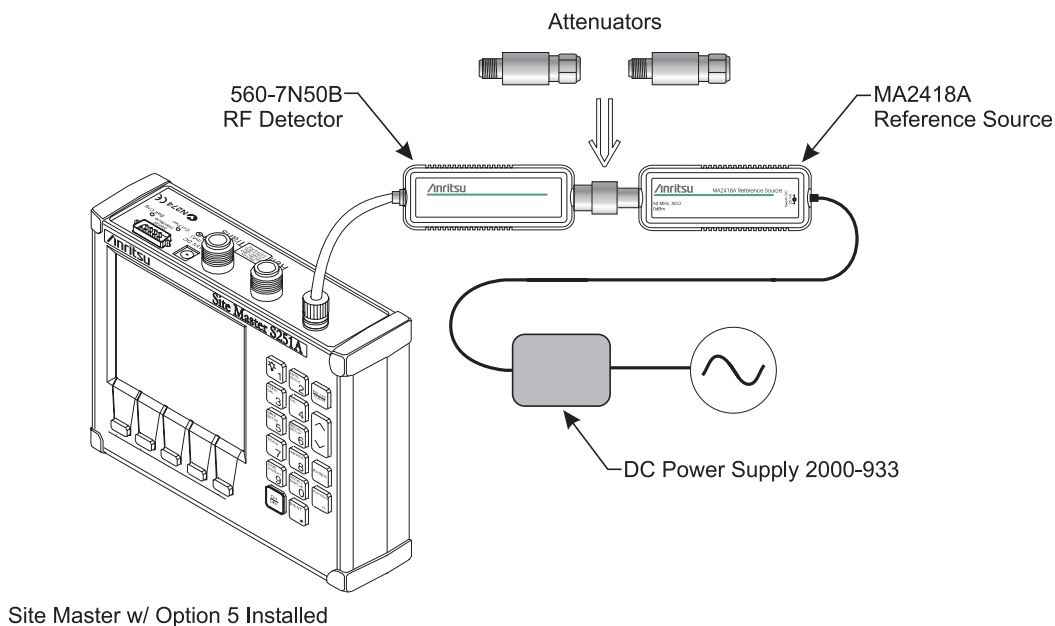

Figure 5. Power Monitor Verification
1. Connect the DC power supply to the MA2418A Reference Source. (Refer to Figure 5.)
10. Connect the output of the MA2418A Reference Source to the two attenuators so as to add 40 dB of attenuation (Figure 5).